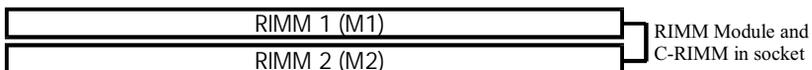
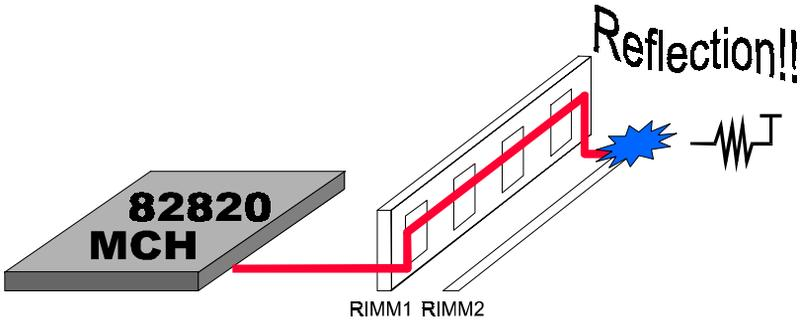

Figure 6
Figure 8: Wrong Configuration
The EP-3C2A/3C2A2 supports (2) 184-pin RIMMs (Rambus Interface Memory Module) as shown in Figure 6. The RIMMs can be RIMM and C-RIMM (Continuity RIMM) only. RIMM modules have Rambus channel signals as their memory interface. A RIMM module may contain up to a maximum of 16 RDRAM devices. All RDRAM devices on a RIMM must have the same timing characteristics. Empty RIMM sockets must be populated with continuity modules (C-RIMM). These modules have no memory on them and are used to propagate the channel to the next RIMM socket. Figure 8, 9& 10 provide a general diagram of a RIMM module and installations of RIMM/C-RIMM modules.
This section describes some basic RIMM/C-RIMM installations as described in table 3. Note that continuity Modules are required in empty sockets. Figure 8, 9 and 10 display common installations including an example of a incorrect one (see figure 8). RIMM or RDRAM signals are daisy-chained through each device on RIMM and memory module.